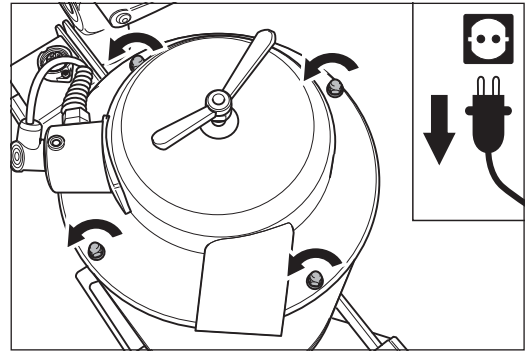
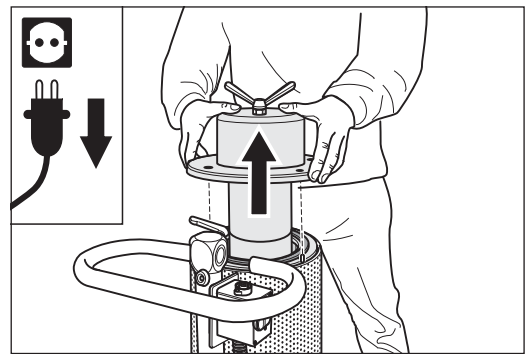

Fig. 67 Remove the four cap nuts and washers on top of the dust separator.
Fig. 68 Lift off the upper part of the separator.
- 7 Remove the four cap nuts and washers on top of the dust separator (fig. 67) and lift off the upper part of the separator in one straight move (fig. 68).